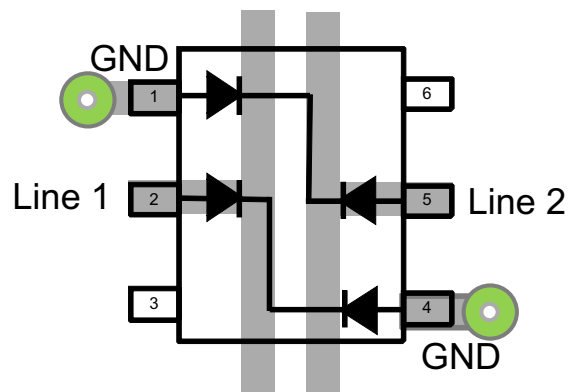

Figure 13. Routing Option 1
- (1) Using Routing Option 1 or 2 as shown in Figure 13 or Figure 14.
(1) Transmission line pulse with rise time 10 ns and pulse width 100 ns.
(3) Using Routing Option 1, Figure 13.